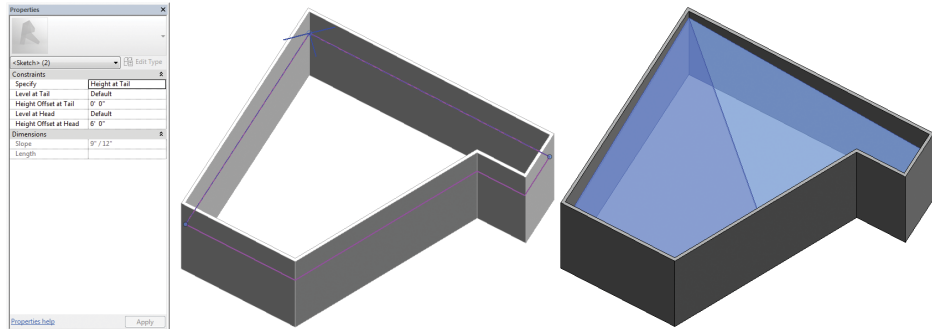

FIGURE 3.24 Roof created from two slope arrows
7. Make sure Height Offset is the same for both tails and both heads. Finish the sketch. The results resemble the roof in Figure 3.24.